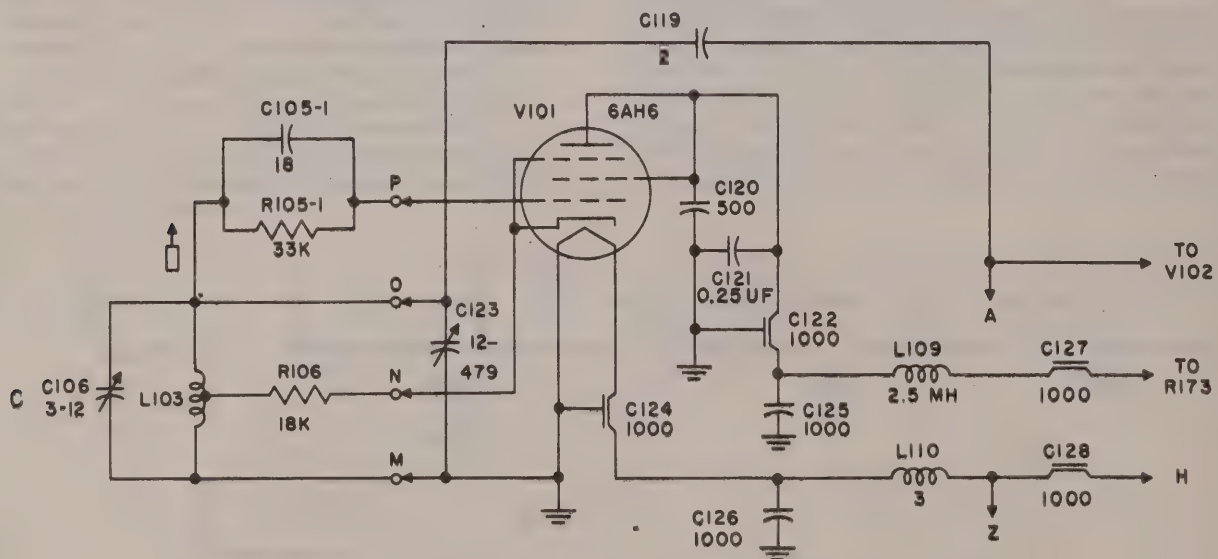

Figure 2-2. Simplified Schematic Diagram of the RF Oscillator
b. CARRIER OSCILLATOR (See figure 2-2).